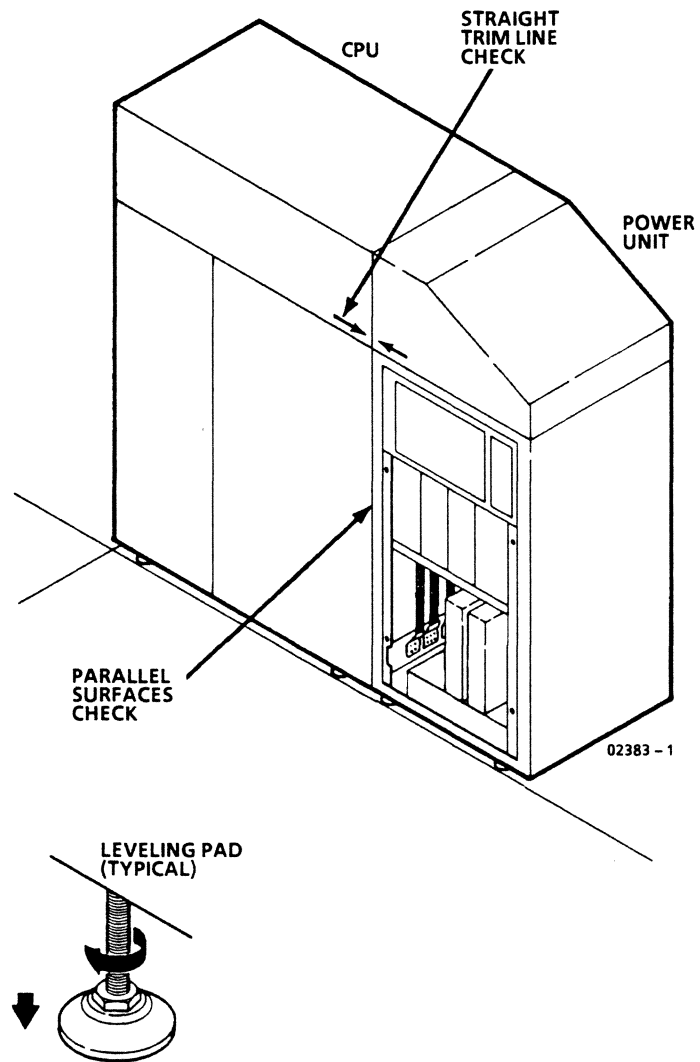

Figure 2-10. Power Unit Alignment
- ___ 3. Visually check for straight front and rear trim lines across units (figure 2-10).